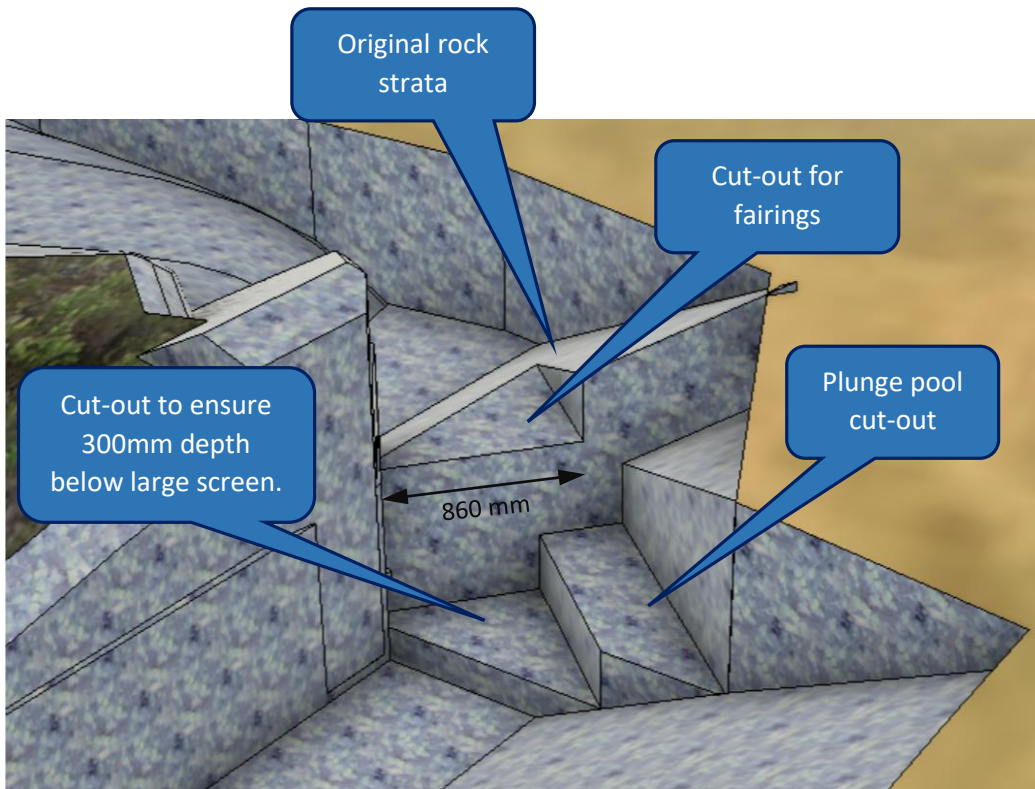

Figure 4. Stream bed cut-outs for screens and plunge pool.
- Carving pockets into bedrock for the screen fairings and plunge pool (Figure 4).